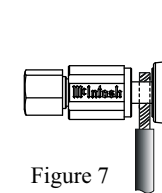

Figure 7
14. Connect the Loudspeaker hookup cables to the MC1.25KW Negative Output Terminal and Positive Output Terminal identified as 2Ω (ohms), 4Ω (ohms) or 8Ω (ohms) connection to match the impedance of the Loudspeaker, being careful to observe the correct polarities. Insert the spade lug connector or prepared section of the cable end into the terminal side access hole, and tighten the terminal cap until the cable is firmly clamped into the terminals so the lugs or wire cannot slip out. Refer to figures 7 and 8.